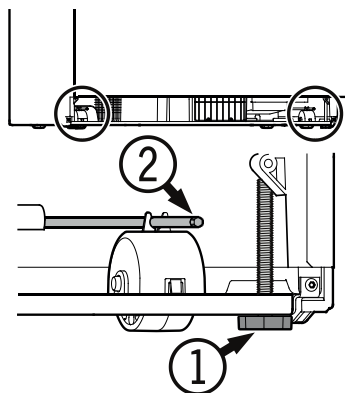

Figure 17
Leveling the Appliance - Figure 17
To prevent the appliance from tipping forward the leveling feet (1) (Figure 17) must have contact with the floor.